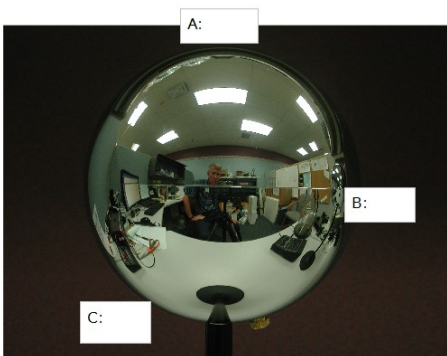

Figure 3: Charge Distribution on a Sphere
6. Touch the sphere at point A (see Figure 3) with the proof plane keeping your hands far away as possible.
7. Put the proof plane in the inner cylinder of the “ice pail” and record the voltage from the Charge Sensor on Figure 3 at point A. Do not ground the proof plane so the total charge on the sphere and proof plane remains constant.
Recall that the voltages recorded on Figure 3 are not the voltages on the sphere (the sphere is at a uniform 3000 V). They are the voltages between the inner and outer mesh cylinders with the proof plane inside the inner cylinder, which is directly proportional to the charge on the proof plane. What can you conclude about the distribution of charge on the sphere?